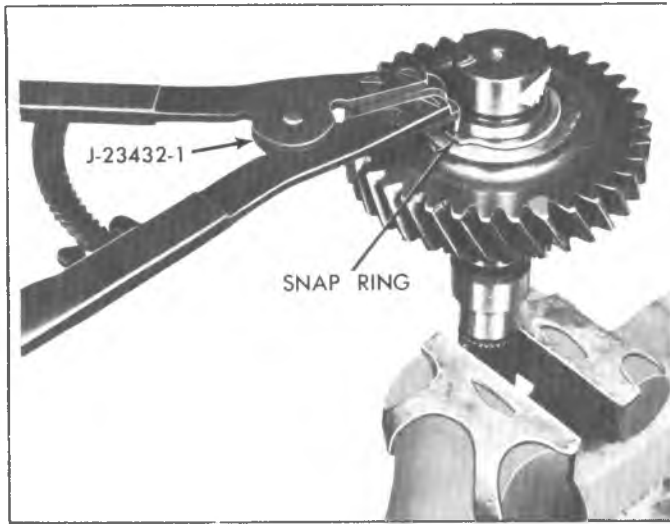

Fig. 5C-Removing Gear Retaining Ring
5. Using large snap ring picks, such as J-23432-1, remove the gear retaining ring from the shaft (Fig. 5C) and discard.